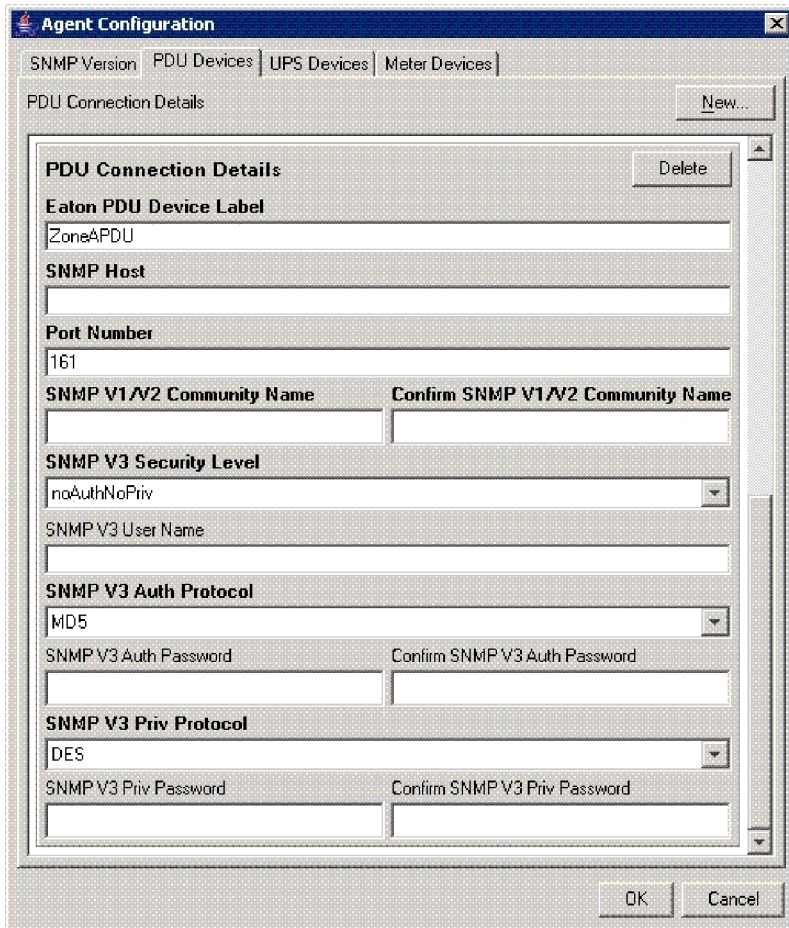
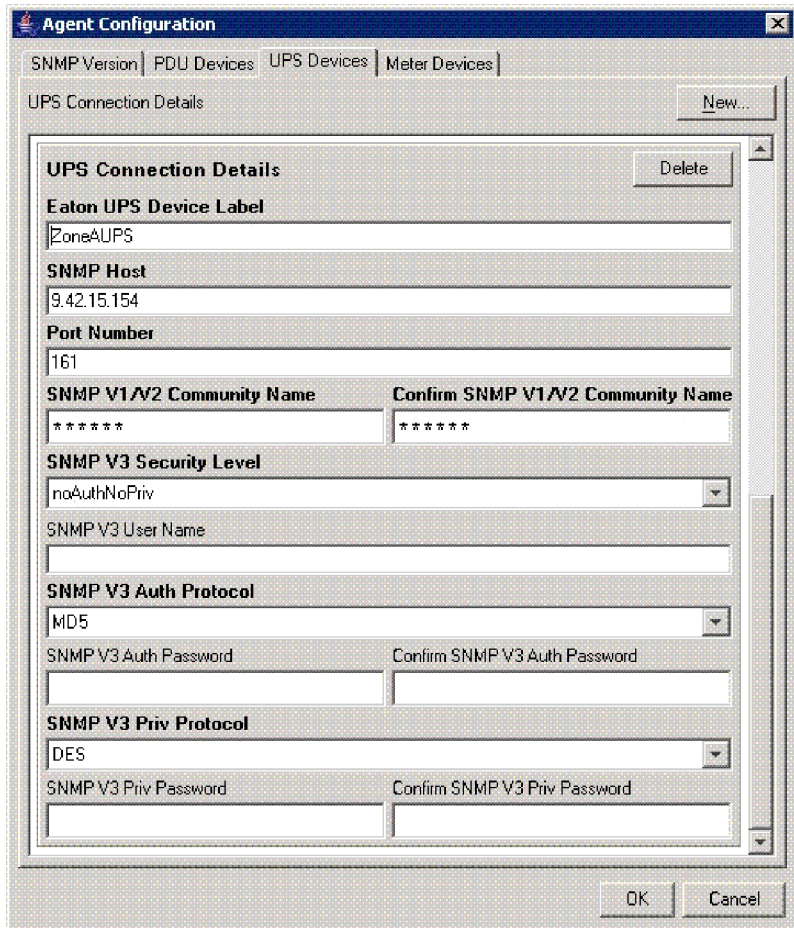
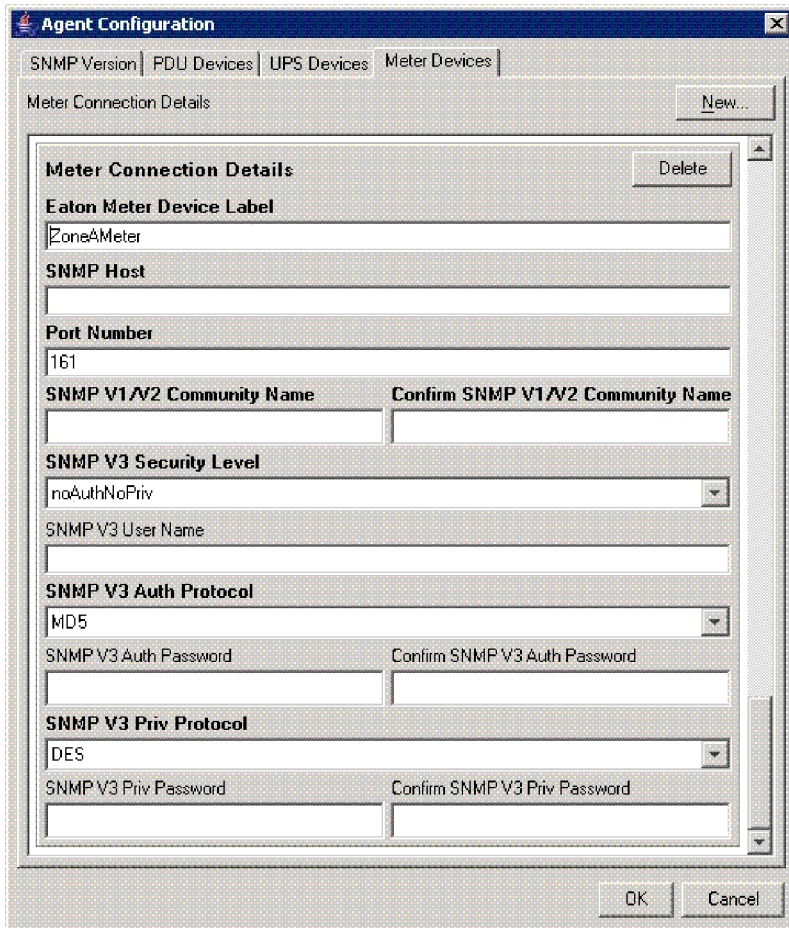

Figure 4. Configuring a PDU for the Eaton Power Xpert Agent
Figure 5. Configuring a UPS for the Eaton Power Xpert Agent
Figure 6. Configuring a Meter for the Eaton Power Xpert Agent
3. Configure new PDUs, UPSes, and meters. Provide unique labels, host name or IP addresses, and device-specific connection information. Figure 4 on page 22, Figure 5 on page 23, and Figure 6 on page 24 show the PDU, UPS, and meter configuration windows: